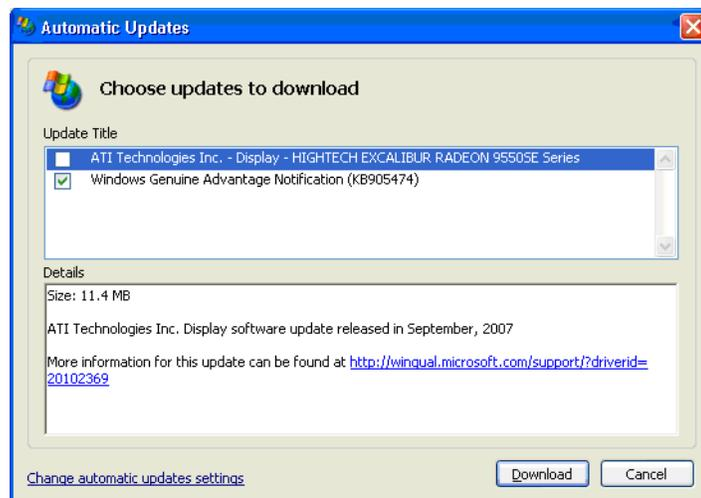

Figure A-2 Automatic Updates Window (Choose updates to download)
5. Review the updates shown in the AUTOMATIC UPDATES window and unselect any driver or hardware update. See Figure A-2 below where a hardware driver update has been unselected.